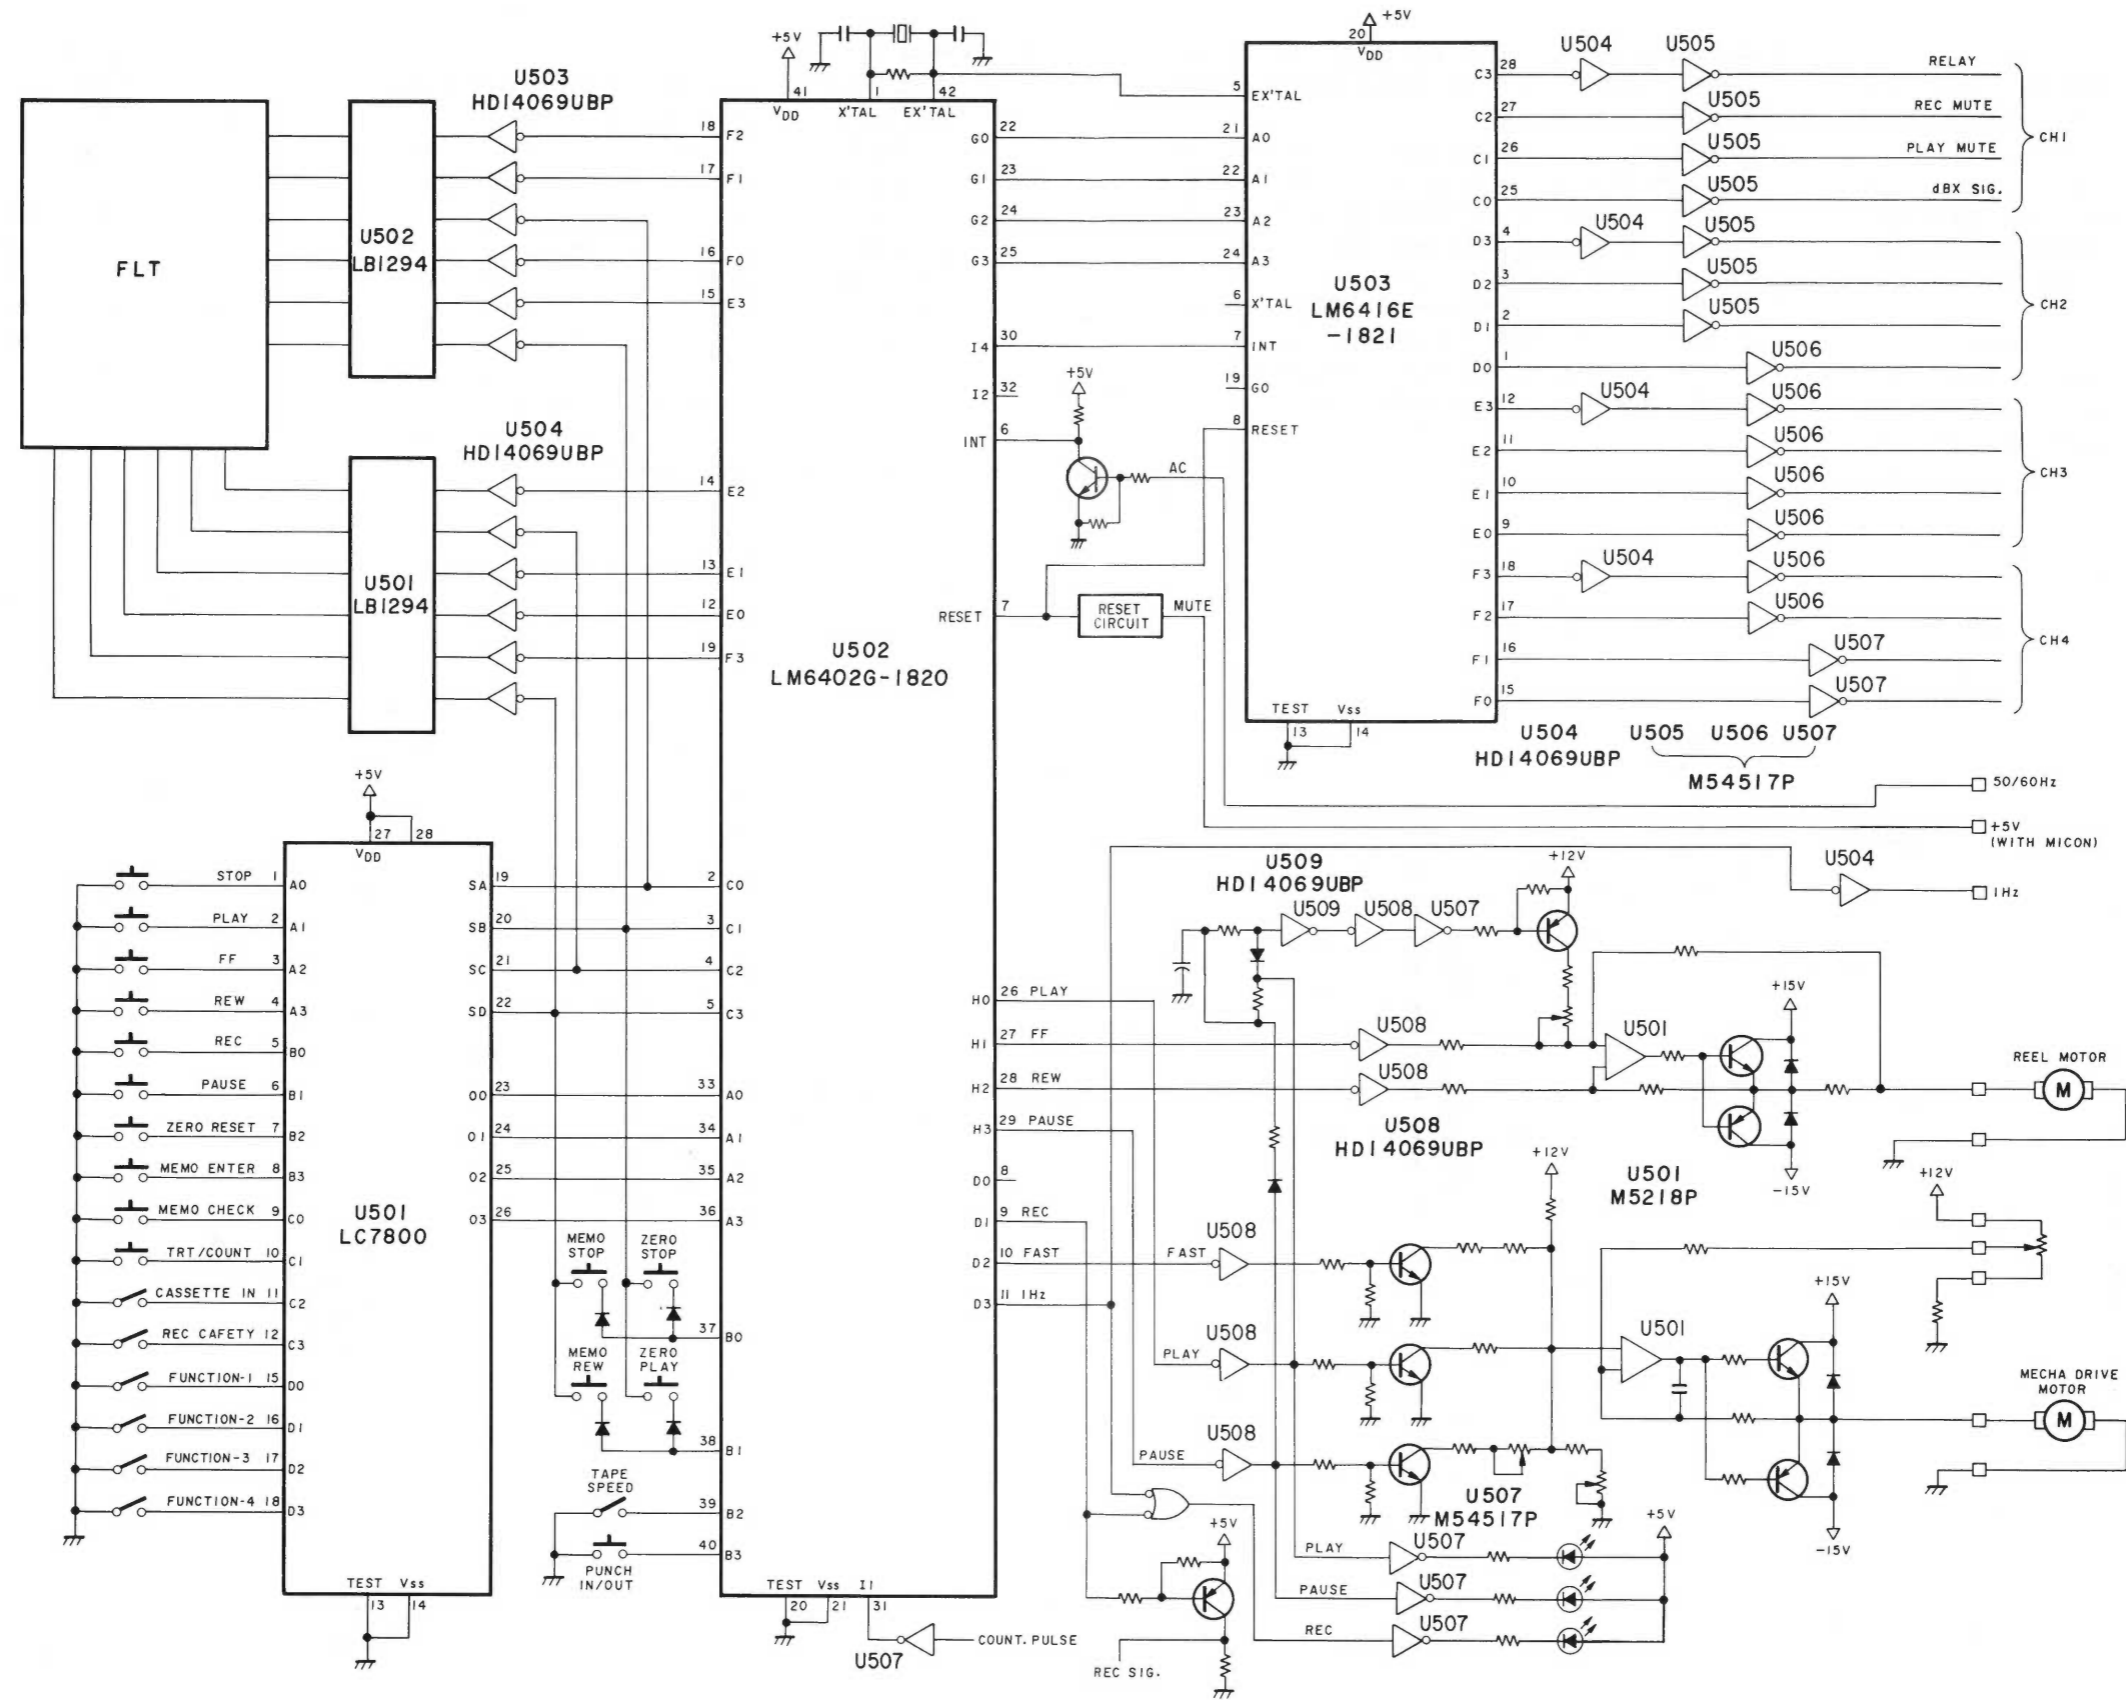
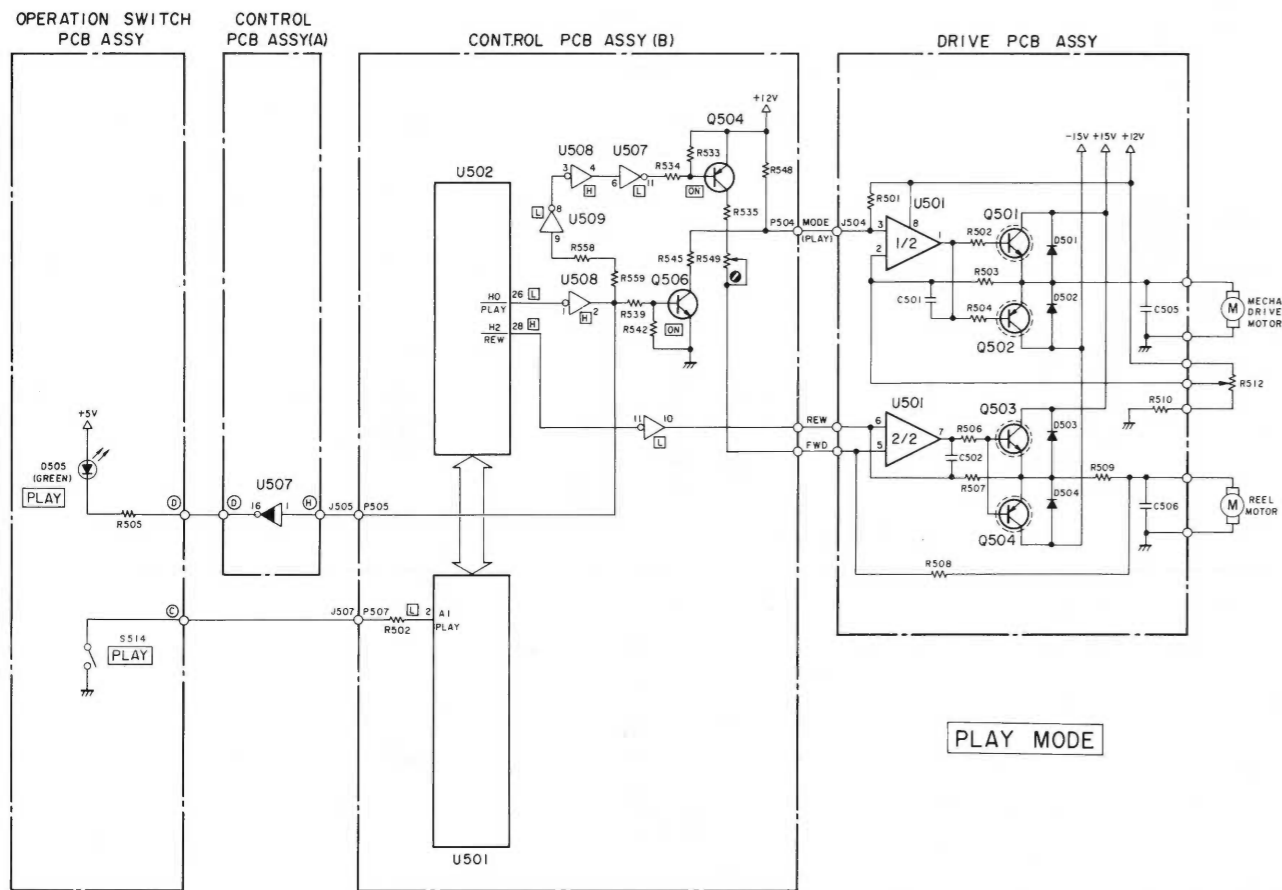

Fig. 2-2
Fig. 2-3
The control circuit, as shown in Fig. 2-2, consists of the main unit composed of four-bit single tip microcomputer (U502), input-port extension interface IC (U501), and output-port extension interface IC (U503), and the logic circuits.
- 1) The input-port extension IC U501 is composed as shown in Fig. 2-1 and operation switches of the deck are connected to its input terminals as shown in Fig. 2-2.
- 2) Output terminals (C0 - C3) of the microcomputer U502 generates four-phase scanning pulses as shown in Fig. 2-2, and they are connected to the terminals SA - SD of U501.
- 4) However, as for zero stop, zero play, memory stop and memory REW, U501 is not used but a separate circuit is used as shown in Fig. 2-2.
- 1) When the PLAY switch is pressed, PLAY terminal in the Fig. 2-2 turns to L and A1 terminal of U501 also turns to L (refer to Fig. 2-3).
- 4) As pin 2 of U508 turns to H level, pin 16 of U507 in the CONT (A) PCB Assembly turns to L level, lighting PLAY LED D505 as a result.